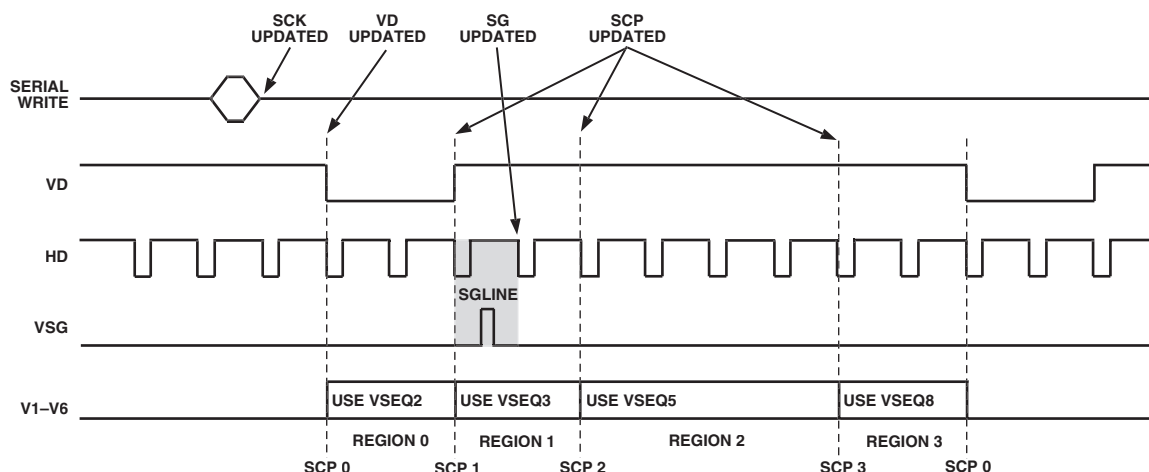

Figure 42. Register Update Locations (See Table XV for Definitions)
4. **SCP Updated:** In Bank 2, all of the V-pattern group and V-sequence registers (Addr. 0x00 through 0xCF, excluding 0x7F) are updated at the next SCP, where they will be used. For example, in Figure 42, this field has selected Region 1 to use V-Sequence 3 for the vertical outputs. This means that a write to any of the V-Sequence 3 registers, or any of the V-pattern group registers that are referenced by V-Sequence 3 will be updated at SCP1. If multiple writes are done to the same register, the last one done before SCP1 will be the one that is updated. Likewise, register writes to any V-Sequence 5 registers will be updated at SCP2, and register writes to any V-Sequence 8 registers will be updated at SCP3.